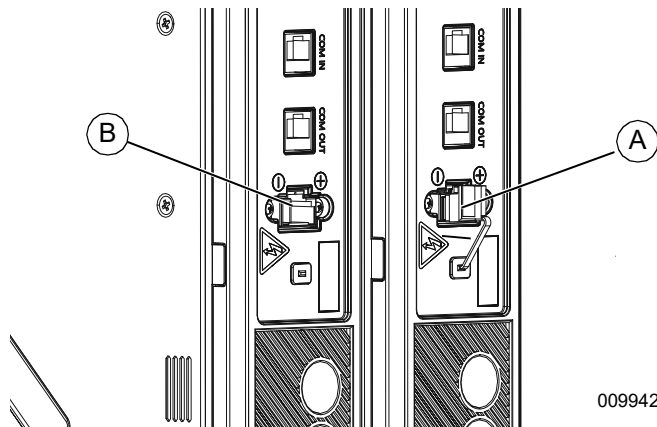

Figure 4-34. Power Cable Ports
1. See **Figure 4-34**. Remove gray rubber cap (A) from each module power port.
2. Plug black power cable connectors into battery module power ports (B).